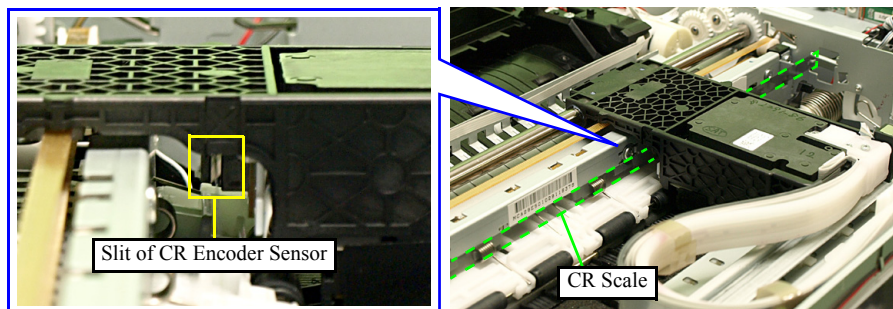

Figure 8-20. Removing the CR Scale (2)
- Make sure to put the CR Scale through the slit of the CR Encoder Sensor. (See Fig. 8-20.)